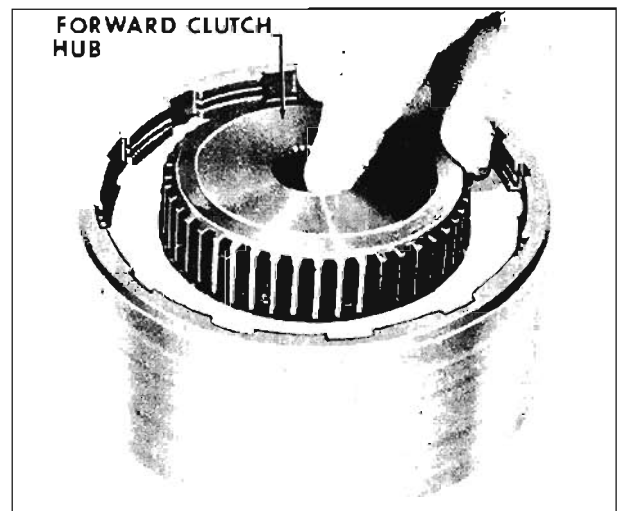

Fig. 6-349 Removing Clutch Hub
4. Lift forward clutch hub from clutch pack. (Fig. 6-349)